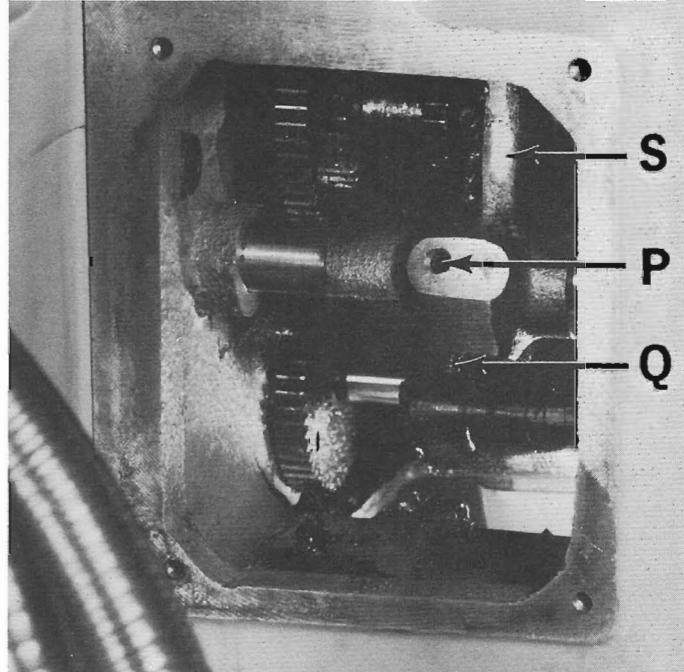

Figure 18 — Gearbox Shifter Fork
(H). Remove lock screws "P" and "Q", Figure 18.
14. Replace shaft "R", Figure 19, and screws "P" and "Q", Figure 18 (locate shifter yoke on shaft by lining up screw holes).
5. Remove lock screws "P" and "Q", Figure 18.
6. Unscrew shaft "R", Figure 19, with hex pin wrench. Remove shaft "R" and shifter fork "S", Figure 18.